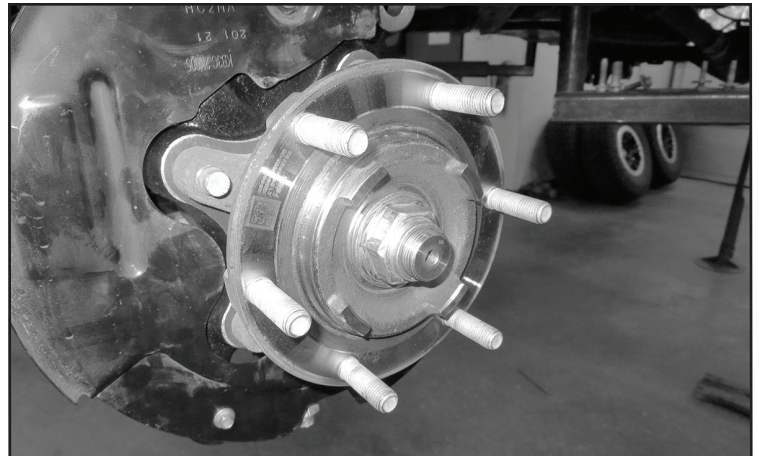

FIGURE 58 - STEP 44
44. Install the CV axle nut. Torque to 220 ft-lbs. **SEE FIGURE 58**